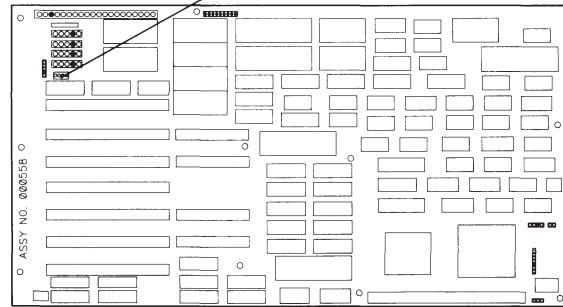

Figure 7-16. Location of the Battery Connector.
3. Locate and remove the battery connector from the system board (Figure 7-16).